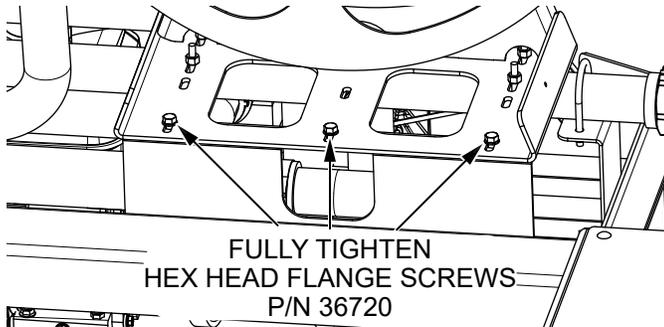

**Figure 7. Secure Hose Reel Drum Assembly To Cross Tube**
6. Secure the **hose reel drum assembly (P/N 59136)** to the **cross tube** as shown in Figure 7 using the **two muffer clamps (P/N 12597)** and **four nyloc nuts (P/N 5283)**.
- a. Tighten the front nyloc nut (Figure 7) on each muffer clamp until each clamp is touching the bottom of the cross tube.